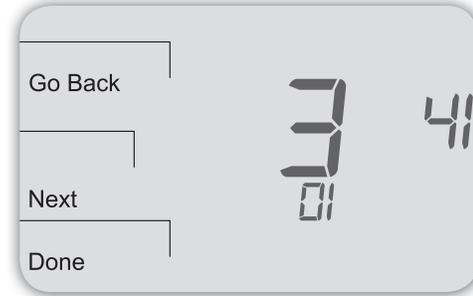

Figure 14. Service Menu 341 allows user to restrict access to Service Menus.
1. On the thermostat, press the lower left and lower right keys simultaneously for about five seconds. **Next, Go Back, and Done** appear (see Fig. 14).
3. In Service Menu 341, press ▲ / ▼ to change digit (flashing) value to "01" (see Fig. 14).